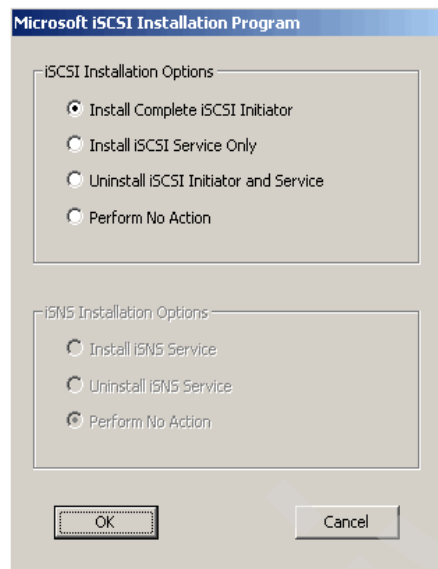

Figure 7-59 Microsoft iSCSI Initiator iSCSI installation options
3. Select **Install Complete iSCSI Initiator** (Figure 7-59).